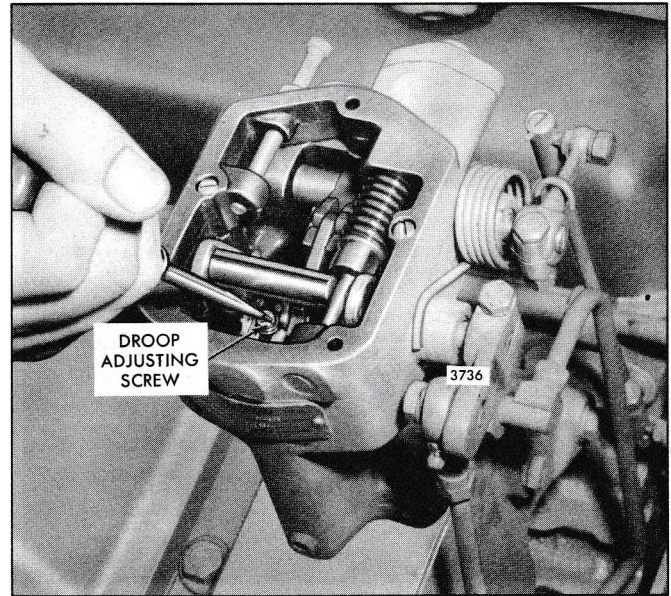

Fig. 9 - Adjusting Speed Droop
4. Loosen the droop adjusting screw. Move the droop adjusting bracket so that the screw is midway between the ends of the slot in the bracket. Tighten the screw (Fig. 9).